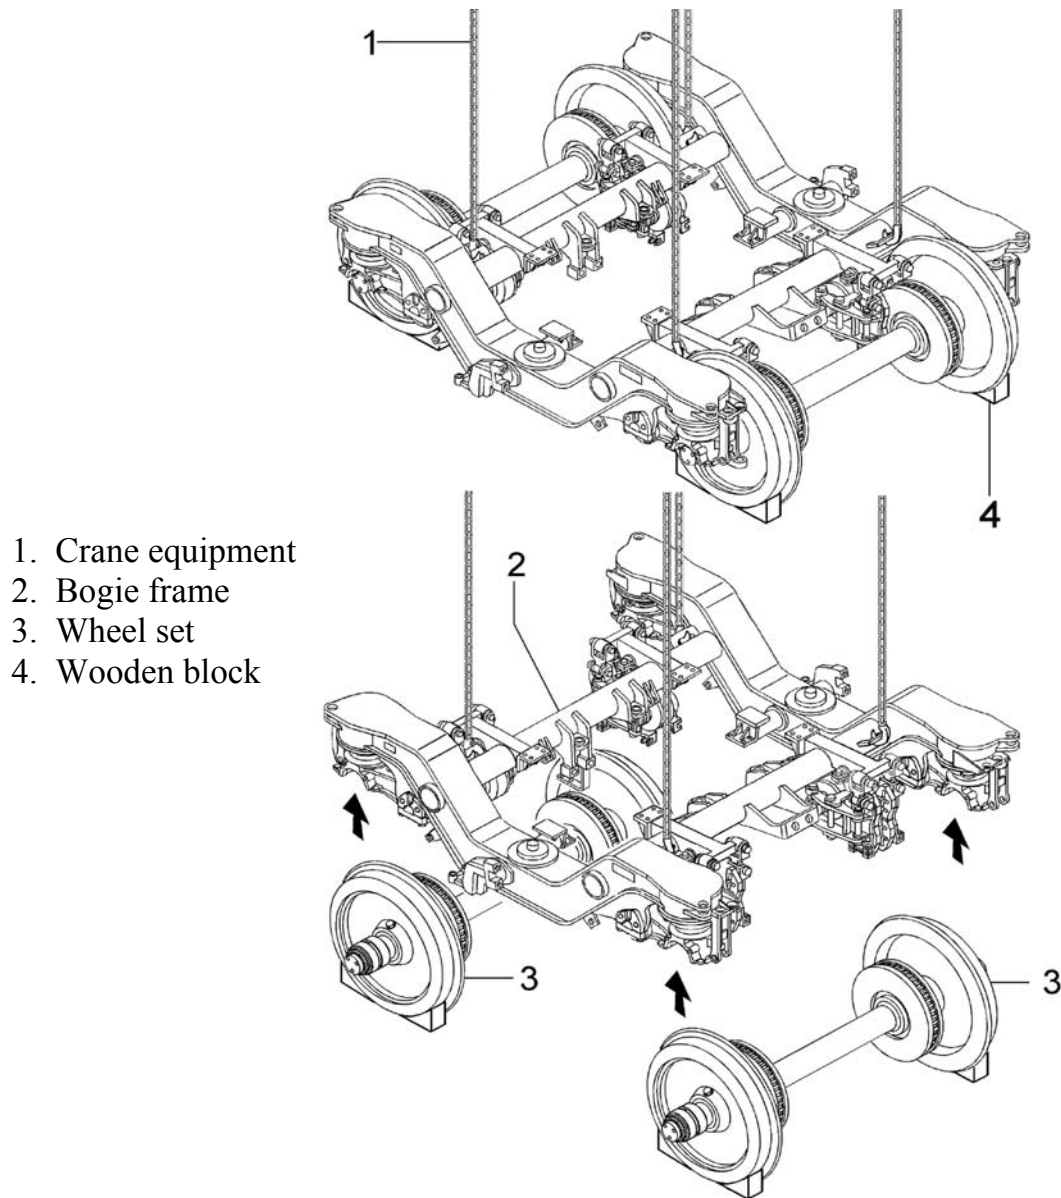

FIG. 4.41 LIFTING THE BOGIE FRAME
It is then possible to proceed with lifting the bogie frame (see FIG. 4-41). Before doing so, however, make sure that both wheel sets are secured with wooden blocks (4) from both sides. Be sure that the brake levers are in OPEN position: if not, turn the nut on the brake cylinder using a wrench. Then hook the crane equipment (1) to the frame (2) and then lift it with care. The two wheel sets (3) remain on the floor and can be rolled away.